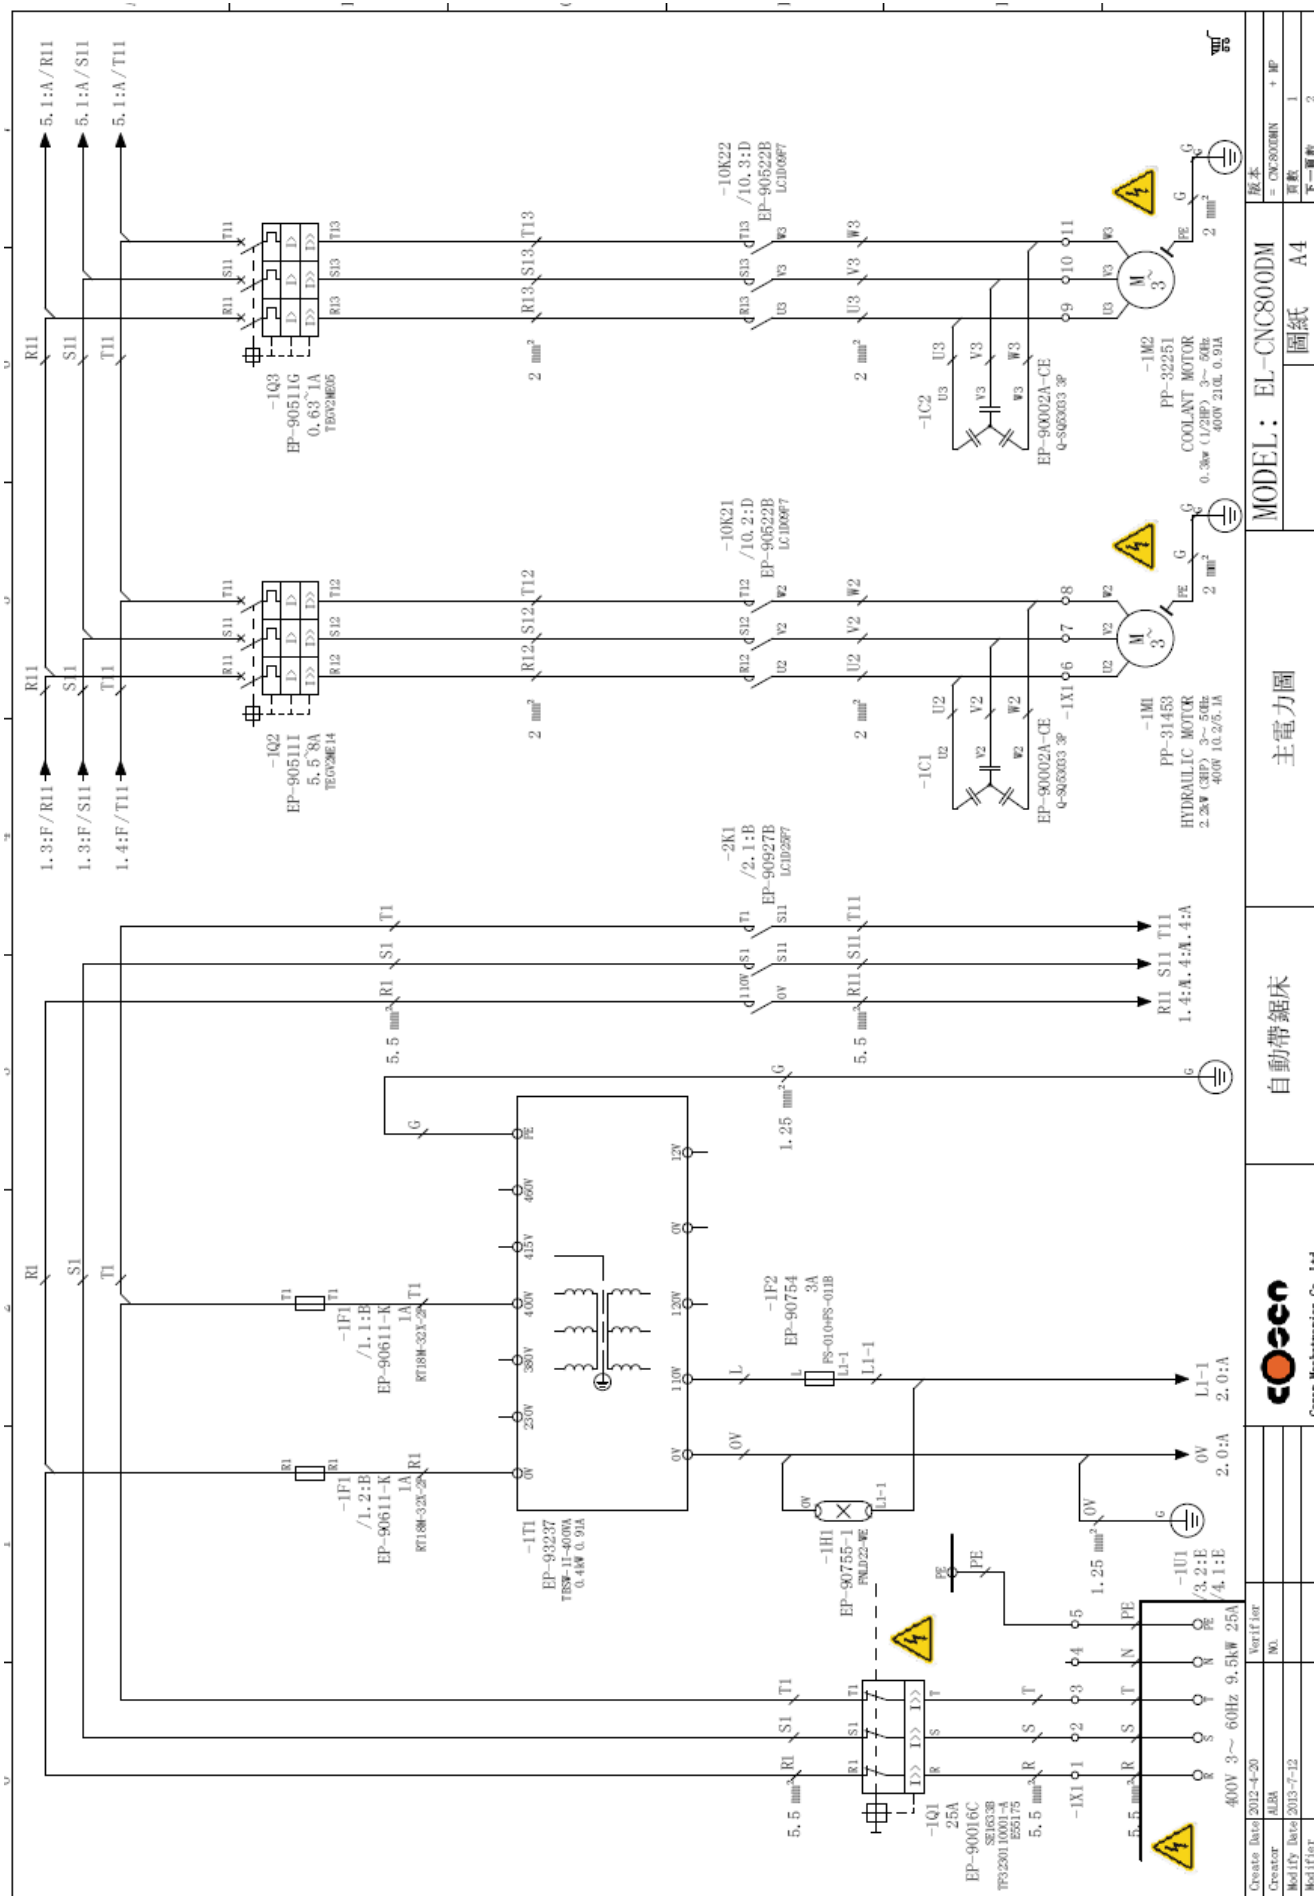

Fig. 5-1 Main circuit diagram (CE)
- Fig. 5-1 Main circuit diagram (CE)